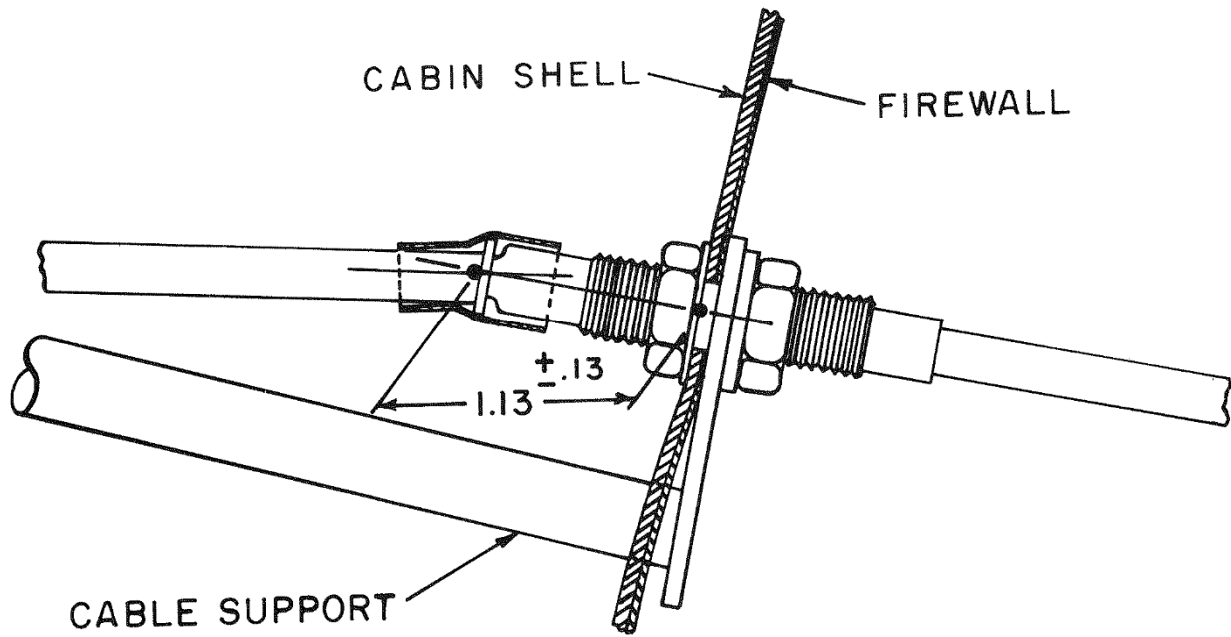

Figure 13-23. Forward Cable Attach Point
- (b) Set the forward cable attach position at 1.13 ± .13 inches (Figure 13-23).